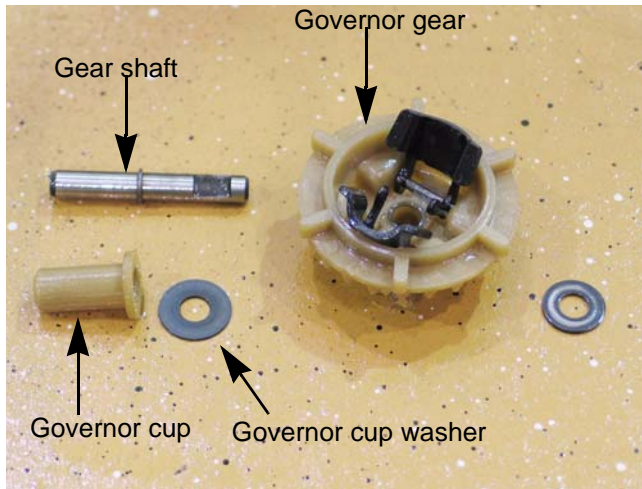

Figure 4.60
- Slide the gear shaft out of the gear and cup. See Figure 4.60.